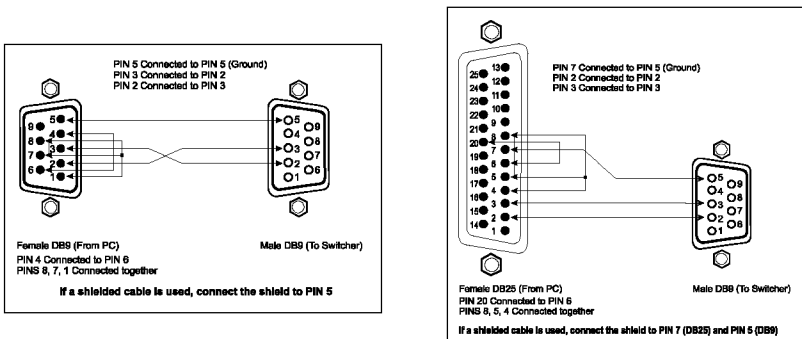

Figure 7: Connecting a VP 108 Unit to a PC without using a Null modem Adapter
- Connect the RS-232 DB9 port on your PC to the RS-232 DB9 rear panel port on the **VP-108** unit, as Figure 7 illustrates (depending on whether the PC has a 9-pin or 25-pin connector)